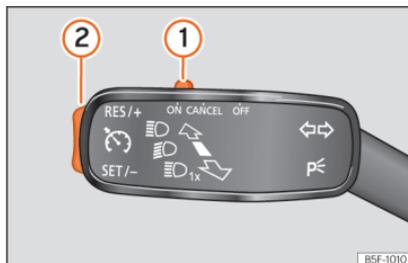

Fig. 53 Left of the steering column: CCS switch and controls.
• Switching on the CCS: Move switch » **Fig. 53** ① to **ON**. The system is on. If no
- Activate the CCS: Press button » **Fig. 53** ② in the **SET/-** area. The current speed is memorised and controlled.
- Temporarily switching off the CCS: Move switch » **Fig. 53** ① to **CANCEL** or push the brake. The cruise control system is switched off temporarily.
- Reactivating the CCS: Press button » **Fig. 53** ② in **RES/+**. The memorised speed is saved and controlled again.
- Increasing stored speed during CCS regulation: press button ② in **RES/+**. The vehicle accelerates until the new stored speed.
- Reducing stored speed during CCS regulation: press button ② in **SET/-** to lower the speed by 1 km/h (1 mph). Speed is reduced until reaching the new stored speed.
- Switching off the CCS: Move switch » **Fig. 53** ① to **OFF**. The system is disconnected and the memorised speed is deleted.